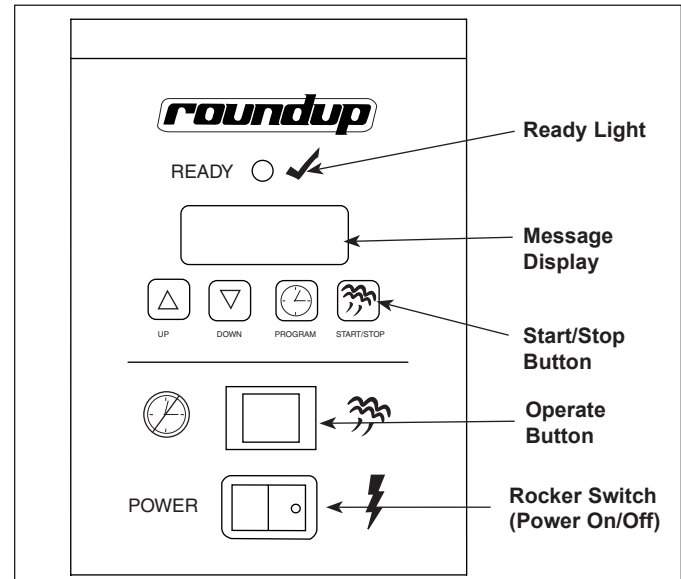

Figure 5. Operating Controls–Timer Models
When the operate button (Figure 5) is pressed and released, power is supplied to the water pump (Water Tank models) or solenoid valve (Direct Water Hookup models). The pump/solenoid operates and water sprays onto the heated steam generator (Figure 9). The water flashes immediately into steam and steams the product.
The Operate Button (Figure 5) is pressed and released to initiate a single steam shot. The Control Board applies power to the Water Pump/Solenoid and a “shot” of steam occurs.
The control is used to set the desired steamttime (up to 99 minutes, 59 seconds). When the Start/Stop Button (Figure 5) is pressed, the Control Board applies power to the water pump/solenoid at regular intervals for the duration of the displayed cycle time. The display counts down to zero when the cycle is complete, sounds an audible signal, and then reverts back to the original programmed cycle time. The unit is ready for the next cycle when the green ready light is on.
1. Turn the Rocker Switch (power On/Off) to ON (Figure 5).